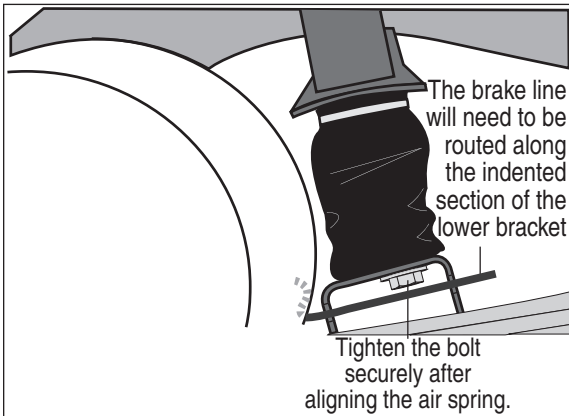

Figure 17
**NOTE:** The brake line will route freely through the indented section of the lower bracket. If the brake line is rubbing on the bracket, the bracket is on the wrong side of the vehicle (Figure 17).
2. Secure the lower bracket to the leaf spring using U-bolt (E), flat washers (H), and nylock nuts (G). Tighten to 16 ft-lbs.
2. When aligned, tighten the lower end by holding the air spring and turning the bolt with a  $\frac{3}{4}$ " open end wrench (Figure 17). Snug (10 ft-lbs) will be sufficient and will also prevent stripping the threads. **Do not attempt to hold the air spring with any type of tool.**